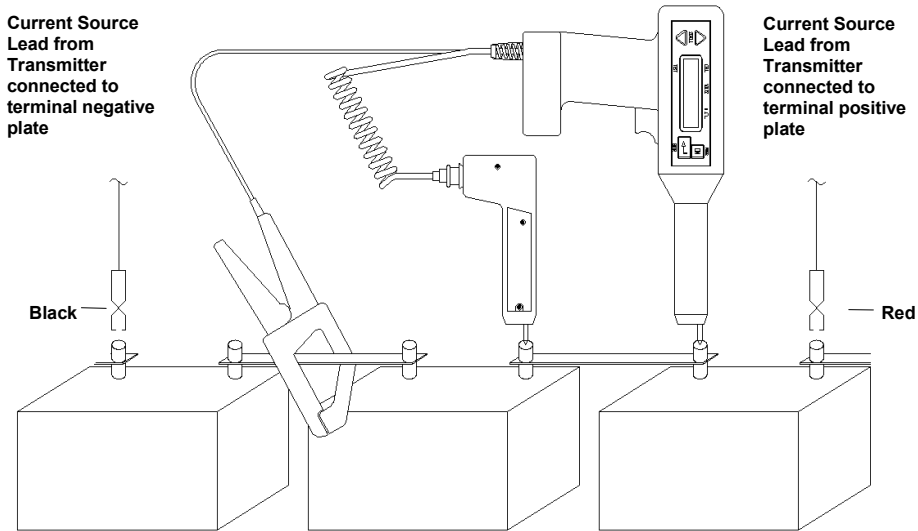

Figure 5-7: Receiver and potential probe positioned on top of battery strap terminals
4. Position the **receiver** and potential probe on top of the battery strap terminals, and then press the probes down. See the sample placement shown in Figure 5-7.